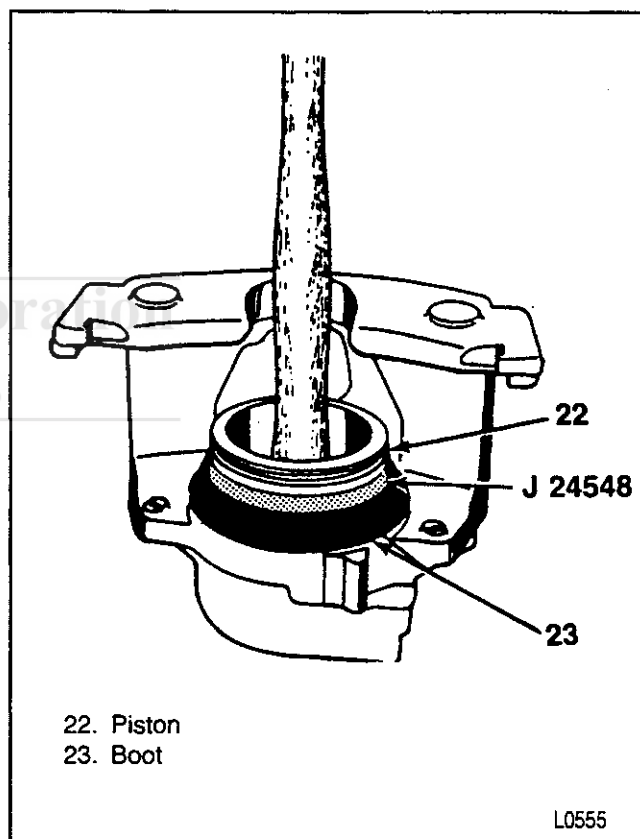

Figure 32—Installing the Piston
5. Piston (22) inside J 24548 (figure 32).